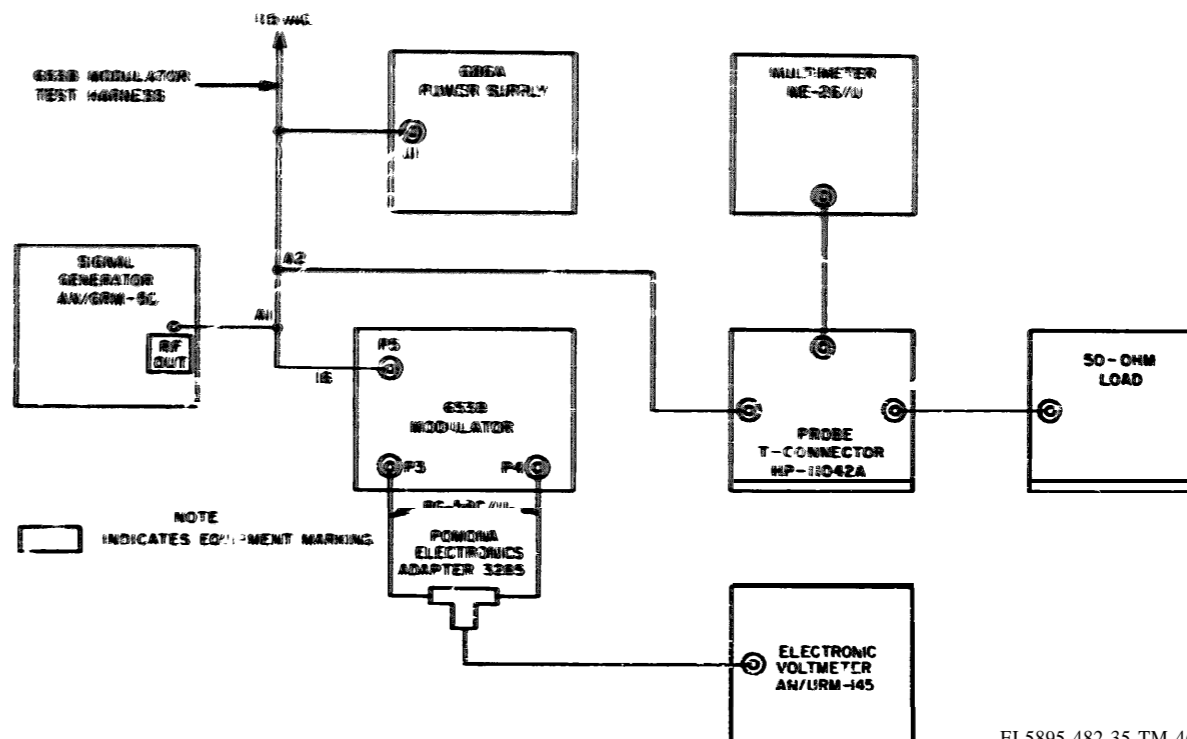

Figure 5-184. 653B modulator rf amplifier alignment test setup diagram
- a. Connect test setup as shown in figure 5-184. Set POWER circuit breaker to OFF.
aq. Reconnect test setup as show in figure 5-184.